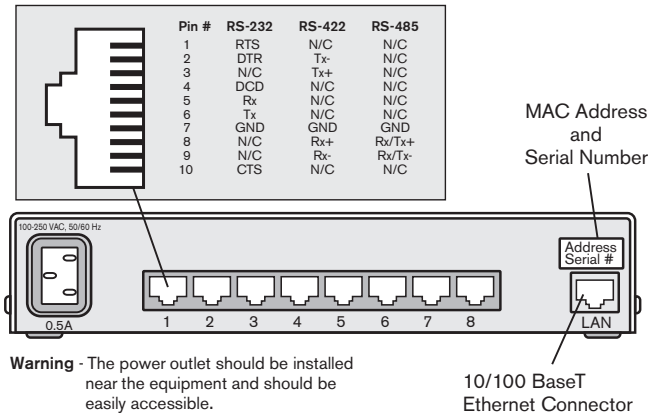

Figure 2. ESP Back View and Port Pin Assignments
Figure 2 shows the back of the ESP-8 MI and the port pin assignments.
1. The MAC address is printed on a label affixed to the back of the unit above the LAN connector socket (see Figure 2). This address will be used as a Unit ID to distinguish different ESP units on the network. Record the MAC address.